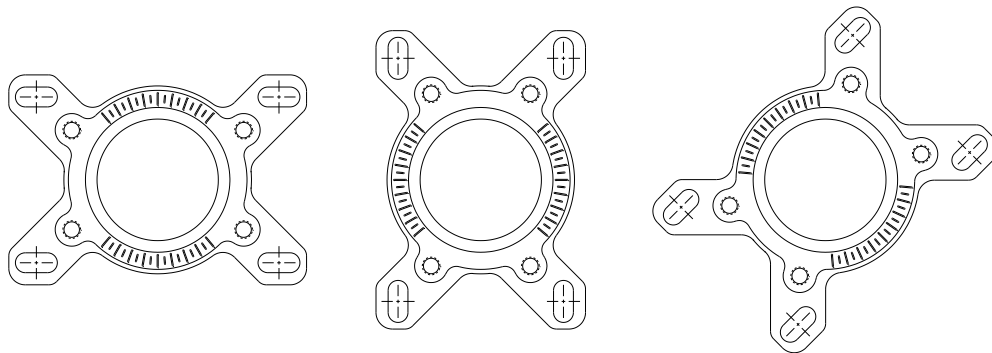

Figure 8 – Mount Position Options
- Does the centre-line of the mainframe lie the correct offset distance from the belt face? The offset can be checked using **ESS XHD Installation Gauges** – refer instruction and figure 8 following.